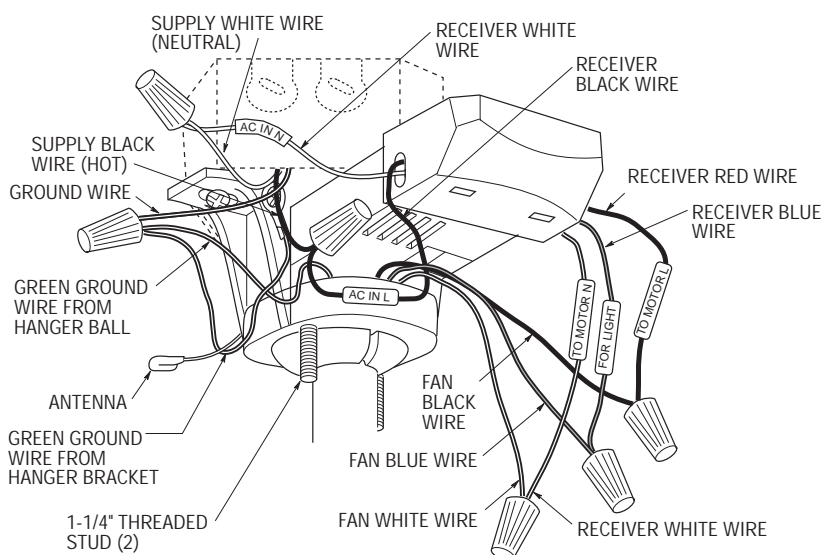

Figure 10
- 1. Position the supply wires to the left side of the outlet box (Figure 10); position the fan wires to the right side. Partially insert the remote control receiver (flat side up) until one end rests on the hanger ball as shown in Figure 10.
- 2. Refer to Figures 10 and 11 and connect the receiver wires to the supply wires and the fan motor wires as follows:
4. Screw the two 1-1/4" threaded studs (supplied) into the tapped holes in the hanger bracket (Figure 10).